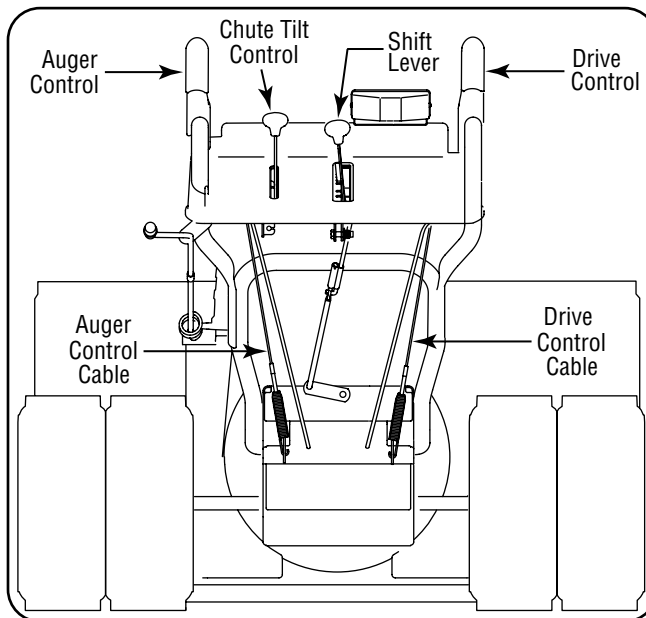

Figure 3-10
1. When the auger control is released and in the disengaged "up" position, the cable should have very little slack. It should NOT be tight. Refer to Figure 3-10.
1. With the engine turned off, move the shift lever into sixth (6) position. Refer to Figure 3-10.
1. From beneath the handle, pull downward on the appropriate cable and unhook the spring found on the end of the cable from its respective actuator bracket. Refer to Figures 3-10 and 3-11.